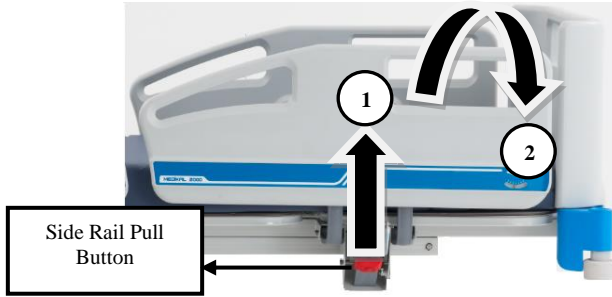

Figure 7a. Hiding the Railings
1. Push the side rail pull button **Figure 7a**. Pull upwards as indicated by **arrow 1**.
2. Side rails **Figure 7a**. Slide down to the lowest position as indicated by **arrow 2**.